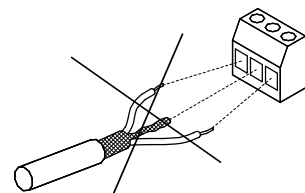

Fig. 9 Do not twist the screen ends
- Avoid terminating the screen by twisting the ends. See fig. 9. Use cable clamps or EMC screwed cable entries instead.